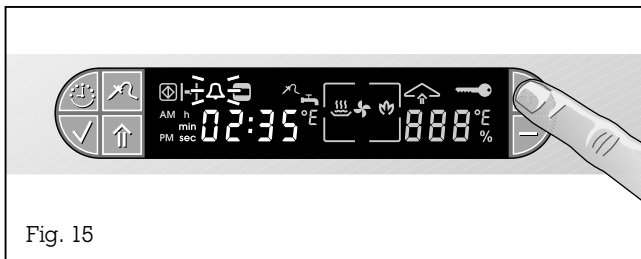

Fig. 15
- Press the + key. The short time symbol  $\Delta$  flashes (Fig. 15).